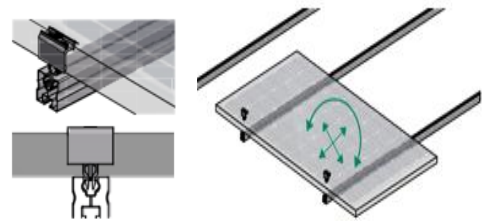

Fig 4.3.1B Positioning first module
- II. Position first module and secure using pre-positioned end clamps [Fig 4.3.1B].